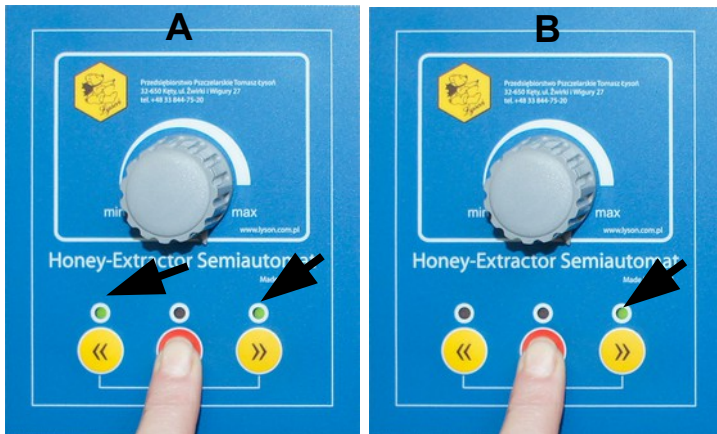

Fig.10. Cassette mode (A), Radial mode (B)
2. Turn the controller on „0/1”. Press and hold „STOP” button when LED diodes start flashing (Fig.9) until one or both green LED's light up (Fig.10)